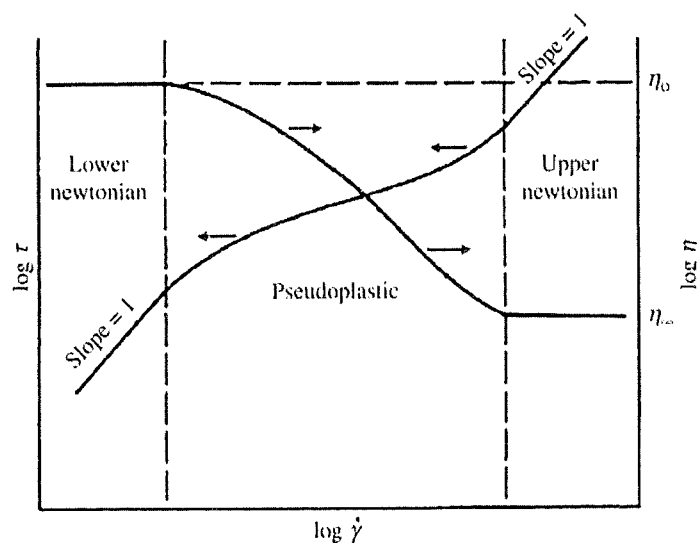

Figure 2 : Generalized flow properties for polymer melts
- (c). Most of polymer melts display three characteristic regions of flow properties over a wide range of shear rates as shown in Figure 2. Explain the structural molecular changes for each region.